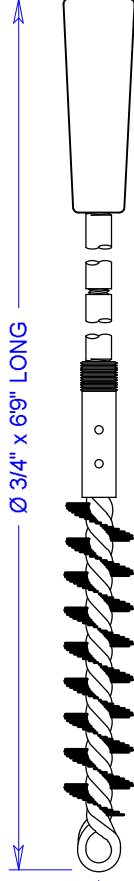

Fig. 2
- 1 Remove RTS-10 End Plugs (Fig. 1). Using HMK-1007 place in end of heater as shown. Using a twisting motion (Fig. 2) move T-Handle in and out of heater until heater is cleaned of all debris. Stand heater on end and shake out. Replace End Plugs.